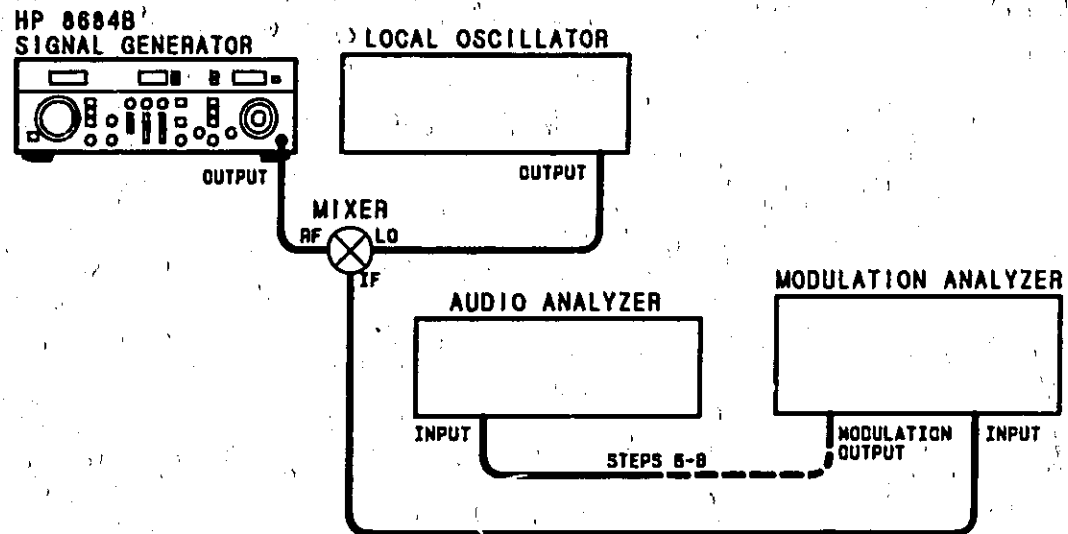

Figure 4-6. AM Depth, AM Distortion and AM Rates, and Incidental FM Test Setup
1. Connect equipment as shown in Figure 4-6.